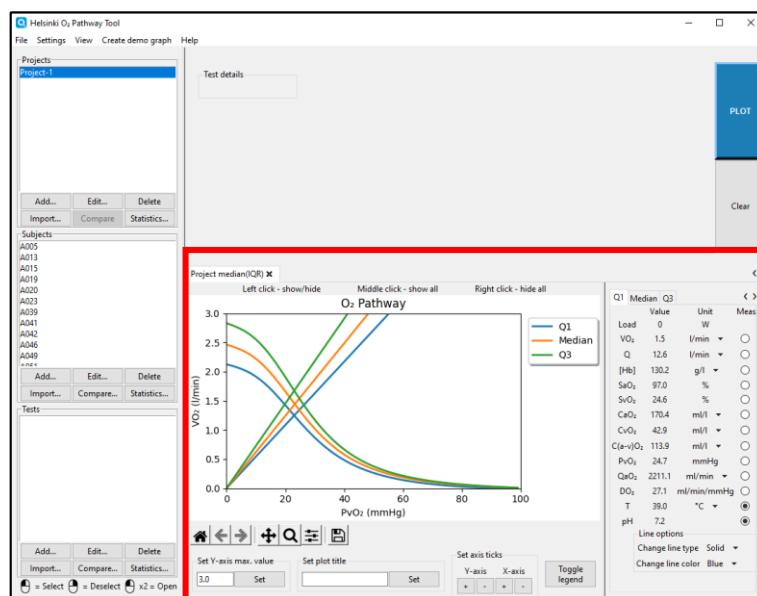

Figure 45
6. The statistics figure is shown in the plot panel and three load tabs have been created with the corresponding numerical values (figure 45).